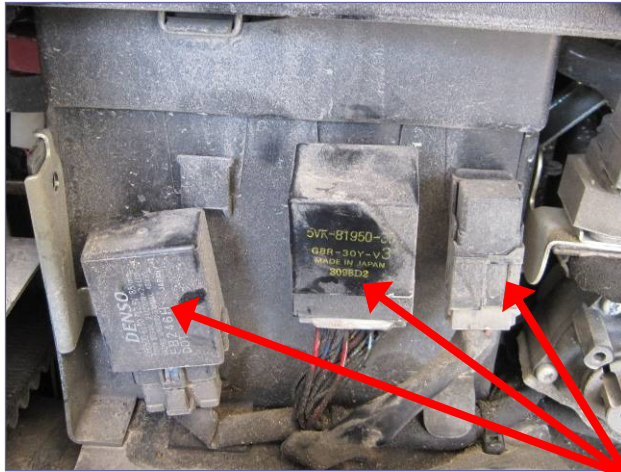
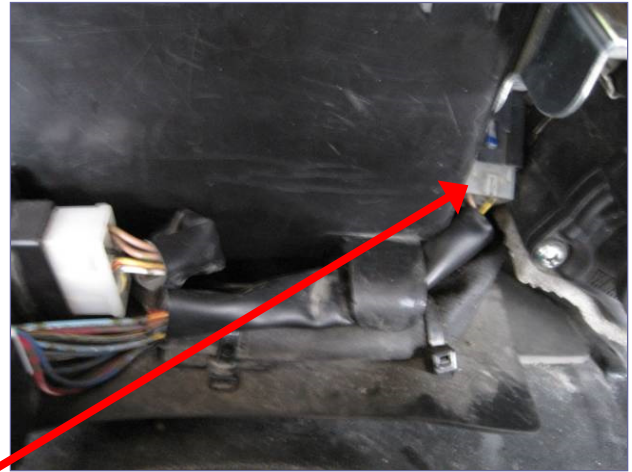

Fig.12
Fig.13
- Remove the two relays from their attachment location on the back of the battery box. Remove the one relay and metal bracket attached to the side tab on the left side of the battery box.(Fig.12)
- Move the smallest relay to the empty space between the ex-up servo motor and the right side of the battery box.(Fig.12, Fig.13)
- Roadliner/Stratoliner applications will have one additional relay on left side attached with plastic grommet to the battery box. This relay usually can stay in place. If it creates an issue with cruise install it should be moved to the empty space between the ex-up servo motor and the right side of the battery box.(Fig.13)